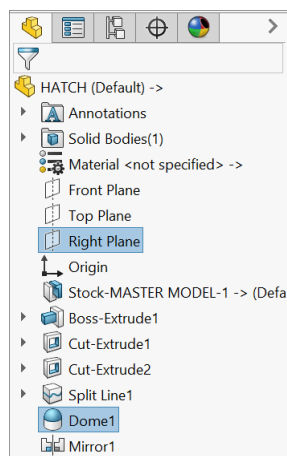

Fig. 30
Step 1. Ctrl click **Right Plane**  and **Dome1**  feature to select plane and feature, **Fig. 30**.